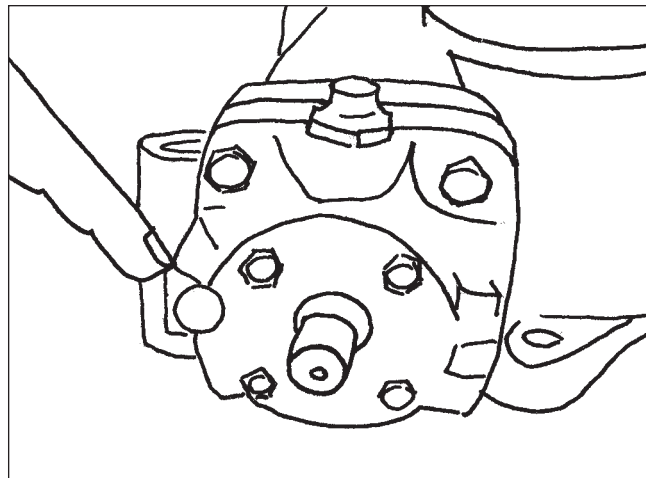

Figure 13
11. If the steering gear you are working on has a grease fitting in the bearing cap cover, remove it at this time. Fill the grease fitting hole with RTV to prevent ingestion of contaminants. No further greasing will be required. (Figure 13)